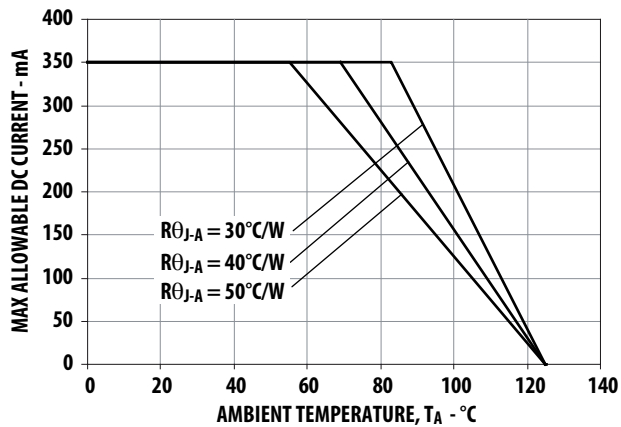

Figure 11. Maximum Forward Current vs. Ambient Temperature.
1. Derate linearly based on Figure 11.